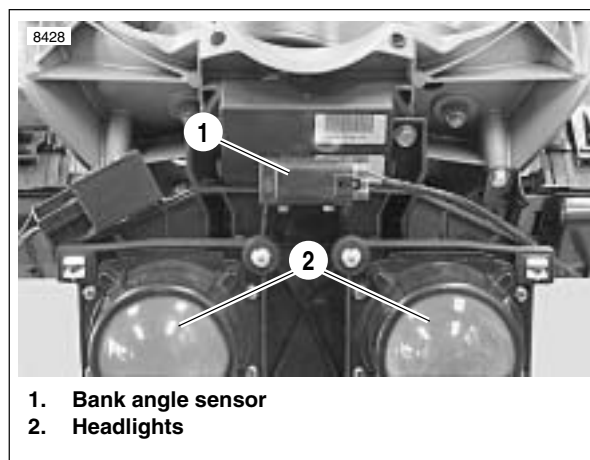

Figure 4-60. Bank Angle Sensor
See Figure 4-60. A Code 44 occurs when the bank angle sensor (1) voltage is outside the normal operating range of 0.24-4.79 volts. This may be caused by: